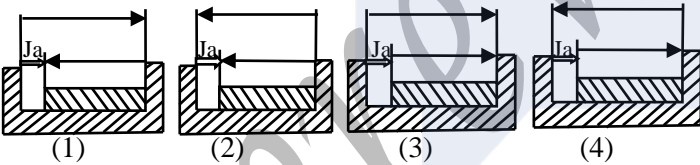

Figure 13
41. Choose the correct chain for Ja in figure 13 from the list below